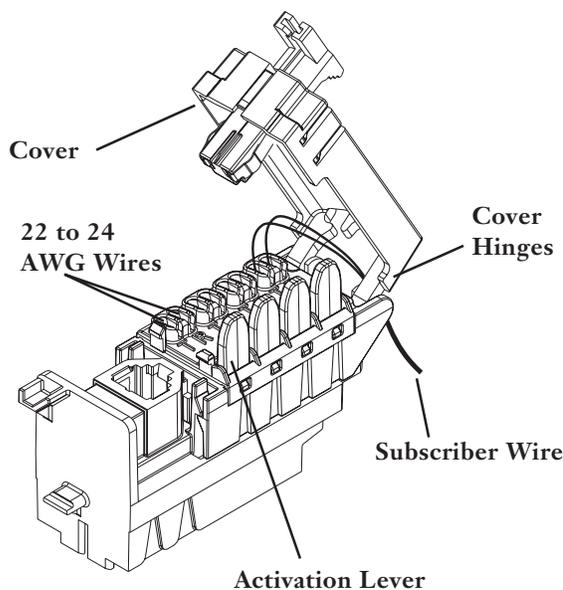

Figure 7 — Insert and Test Subscriber wiring
- Step 2** If cover is not removed from hinges, feed subscriber wires through hole formed by hinges and end of cover. (Figure 7)